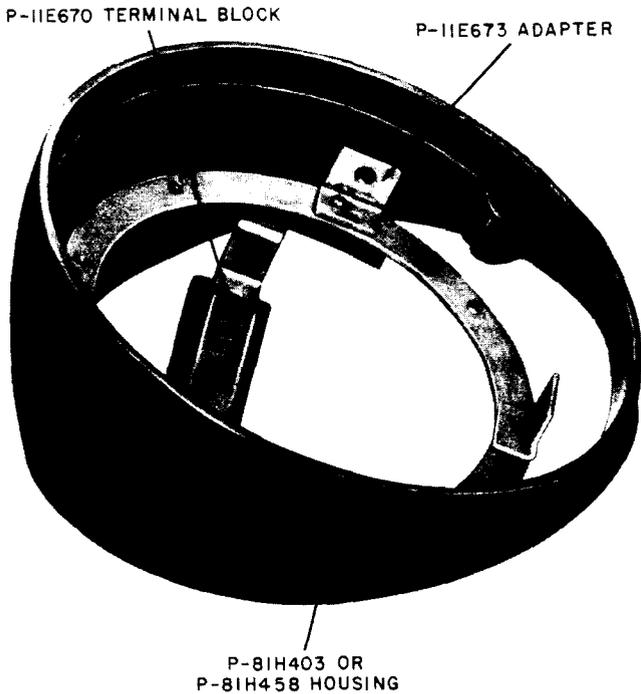

Fig. 2—46A Dial Mounting
2.09 The 46A dial mounting (Fig. 2) consists of a plastic housing, adapter, and terminal block and is arranged for mounting a 9K dial at a 24 degree angle.